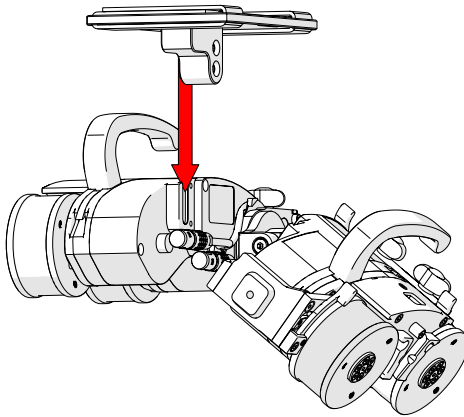

Fig. 288 - Pivot and insert dovetail nut
1. Allow the **NAVIC** crawler to pivot exposing the inside of the left drive module (Fig. 288).
2. Slide the dovetail nuts of the backpack into the accessory dovetail groove (Fig. 288).